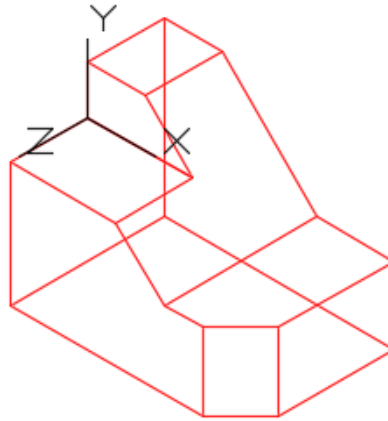

Figure Step 12
Step 12 Using what you learned in Step 8 to 10, locate the UCS as shown in the figure. Ensure that the UCS plane lies on the plane. (Figure Step 12.)